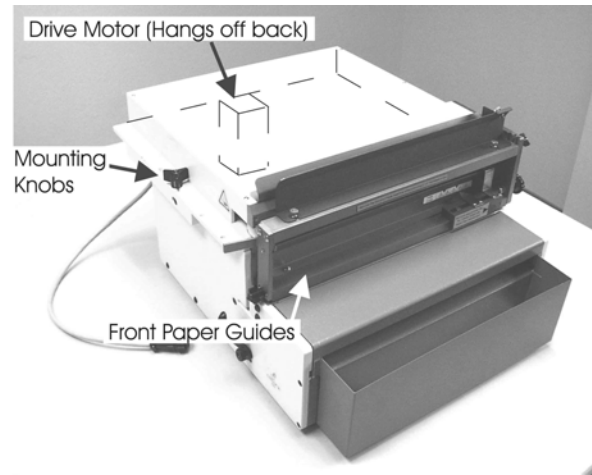

Fig. E-2
- Push and maintain the APES-14 Ejector Base Plate Assembly **lightly** back against the front of the HD punch and install and tighten the two 3-winged *mounting knobs* provided. See Figure E-2.